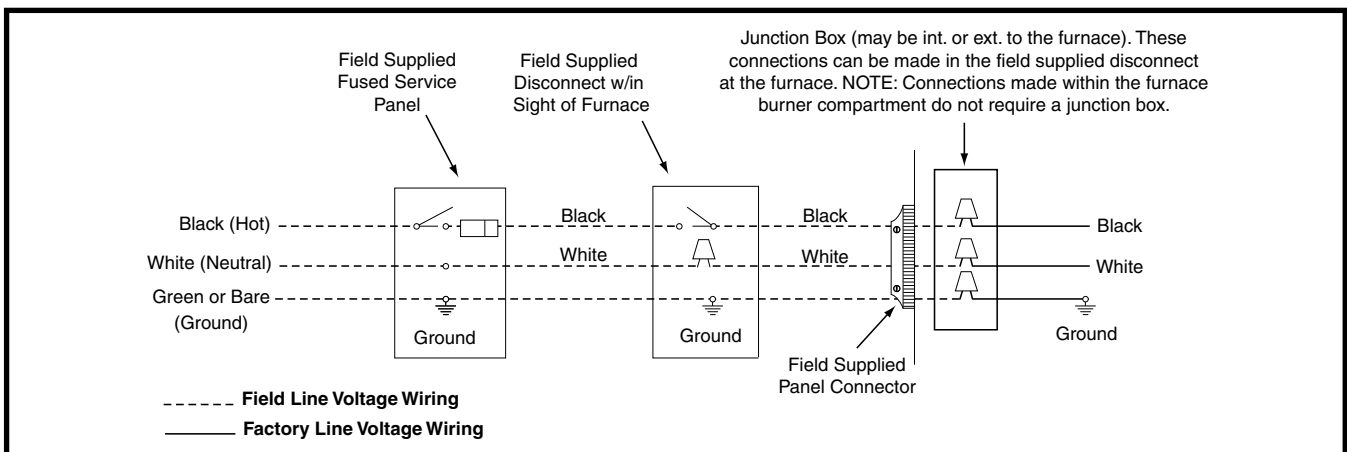

Figure 14. Line Voltage Field Wiring
- An electrical disconnect must be installed readily accessible from and located within sight of the furnace. See **Figure 14** or the wiring diagram label inside of the control door. Any other wiring methods must be acceptable to authority having jurisdiction.
- Proper line voltage polarity must be maintained in order for the control system to operate correctly. Verify the incoming neutral line is connected to the white wire and the incoming “hot” line is connected to the black wire. The furnace will not operate unless the polarity and ground are properly connected as shown in **Figure 14**